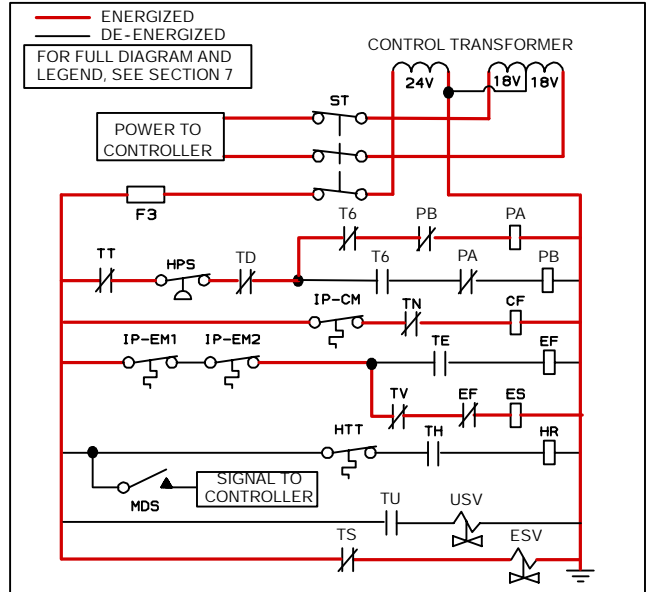

Figure 4-7 Frozen Mode
- a. With supply air temperature above set point and decreasing, the unit will transition to economized cooling with the condenser fan motor (CF), compressor motor (CH), economizer solenoid valve (ESV), low speed evaporator fan motors (ES) energized and the COOL light illuminated. (See Figure 4-7.)